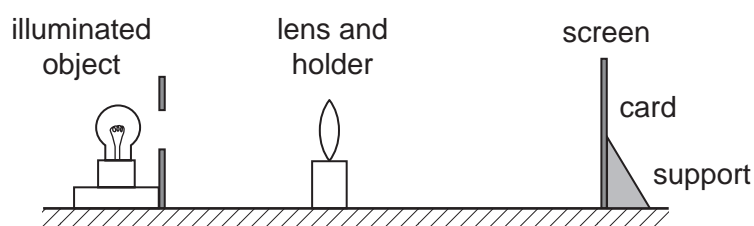

Fig. 4.1
- (ii) Illuminated object with a small triangular hole (see Fig. 4.1 and Fig 4.2). The hole is to be covered with thin translucent paper (e.g. tracing paper).